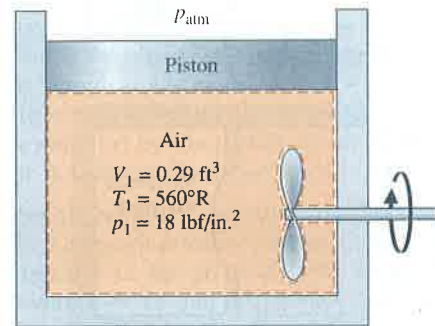

Fig. P3.136
3.136 As shown in Fig. P3.136, a piston–cylinder assembly fitted with a paddle wheel contains air, initially at 560°R,